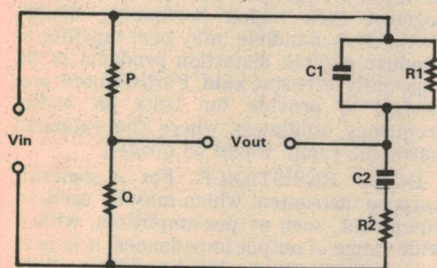

FIG. 2
**The Notch Filter (Wien Bridge).** Fig 2 shows the elements of a Wien Bridge in